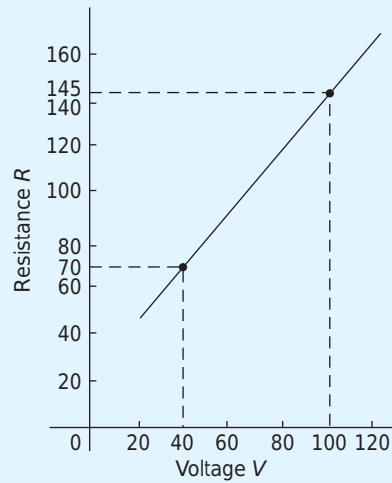

Figure 2.10
3. A graph of resistance against voltage for an electrical circuit is shown in Figure 2.10. The equation relating resistance R and voltage V is: